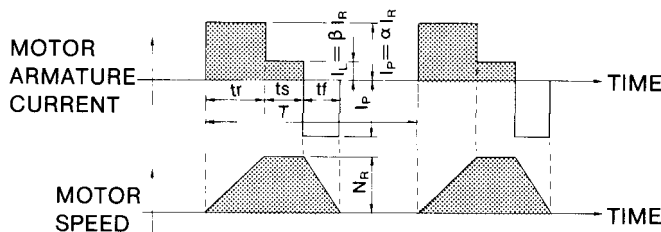

Fig. A4. 3 Timing Chart of Motor Armature Current and Speed
• When the motor remains at standstill between cycles of acceleration and deceleration without continuous rated speed running (Fig. A4. 4)